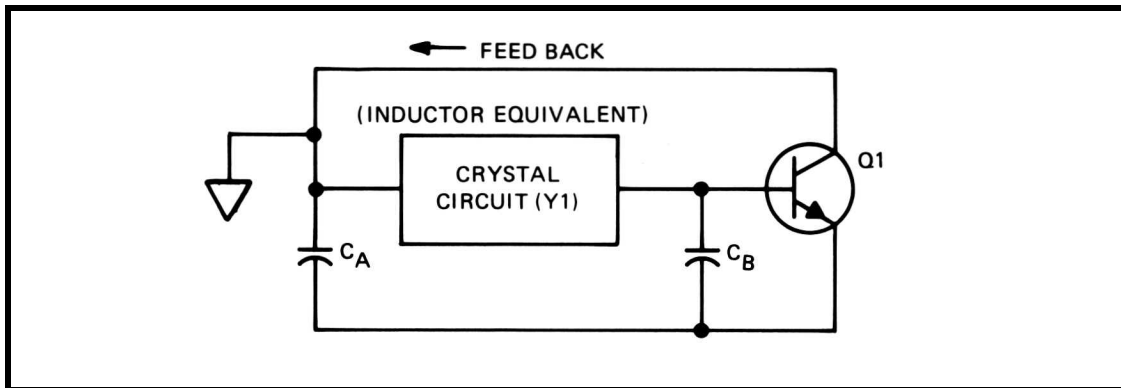
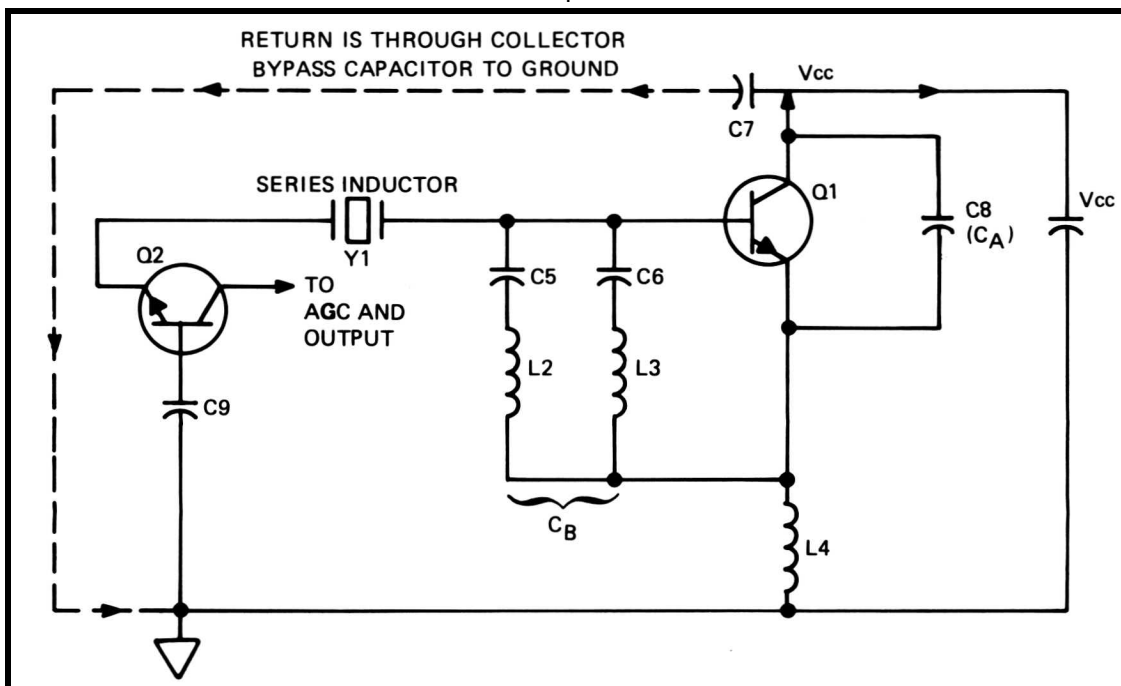
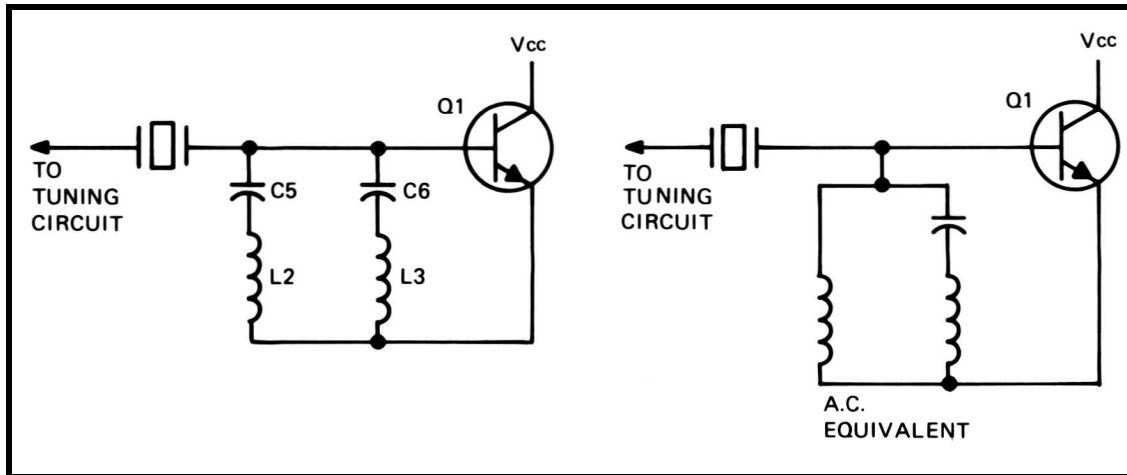

Figure 8-3A. Basic Colpitts-Type Oscillator
Figure 8-3B. Main Oscillator Schematic Design
Figure 8-4. Mode Suppression
- 8-14. The 10811A/B oscillator is a Colpitts-type crystal oscillator which uses the crystal as the series inductor. Figure 8-3A shows the basic block diagram of a Colpitts-type oscillator. Figure 8-3B shows the basic equivalent components of the oscillator.
- 8-15. Comparing Figure 8-3A and 8-3B, we find Y1 is the inductor, capacitor CA is C8 and CB is the combination of C5, L2, C6, and L3. C5 is a dc blocking capacitor. Its reactance is very low, so the combination of these components can be redrawn as in Figure 8-4. The crystal Y1 is a "third overtone" crystal and is operated at 10 MHz. To keep the circuit from oscillating at the crystal's fundamental, or at a different overtone, the mode suppression network of C5, L2, C6, L3 appears capacitive only at frequencies between 9 MHz and 10.5 MHz. Below and above this frequency range, the network appears inductive. This does not allow the proper phase shift around the loop and thus suppresses oscillations at all frequencies other than 10 MHz. It should be noted that any reactance in series with the crystal will cause a change in frequency.